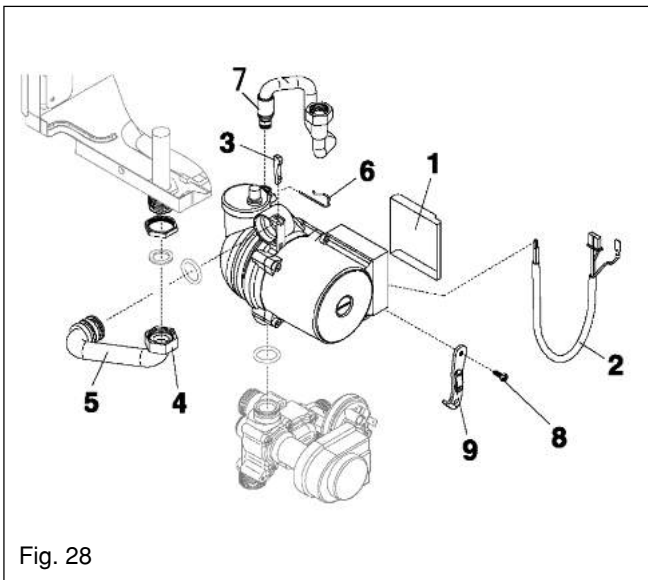

Fig. 28
6.5 PUMP ASSEMBLY (see fig. 28)
6.7 AUTOMATIC AIR RELEASE VALVE (see fig. 28) (AAV)